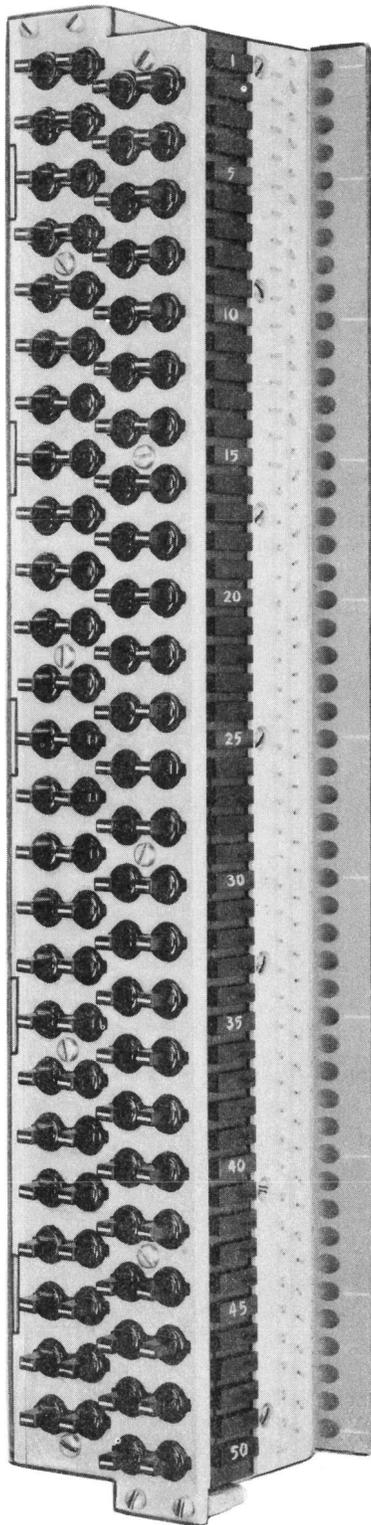

Fig. 1—300-Type Connector
2.01 The basic component of the 300-type connector is the 50-pair connector block with an attached fanning strip as shown in Fig. 1 and 2.